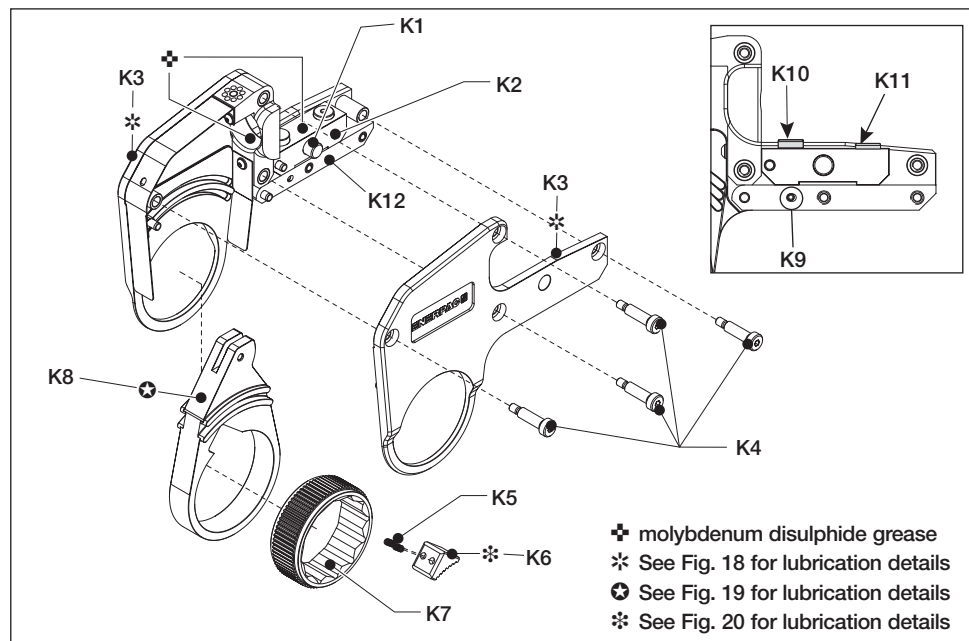

Fig. 16
#### 5.4 Preventative Maintenance - Cassette (Fig. 16, 18, 19 and 20)
- Apply a thin coat of molybdenum disulphide grease to the bore of the cylinder locating plate and to the top of the pin retainer assembly. Refer to Figure 16 for molybdenum disulphide grease locations (✚).
## 5.5 Full Maintenance - Cassette (Fig. 16, 18, 19 and 20)
- Dry all components. Apply a thin coat of molybdenum disulphide grease (✚) as indicated in figures 16 and 18. Refer to Section 5.4 for additional information about application of molybdenum disulphide grease.